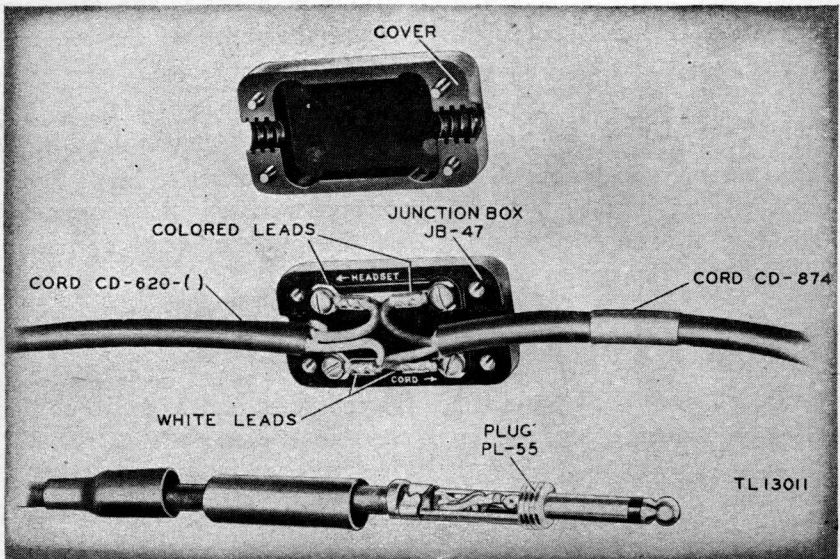

Figure 17. Junction Box JB-47 and Plug PL-55, connection detail.
b. **CORD CD-874.** Cord CD-874, which terminates in Plug PL-55, is supplied for use with Headset HS-30-( ). The impedance of Headset HS-30-( ) with Cord CD-874 is approximately 250 ohms. Junction Box JB-47 is connected between the headset and Cord CD-874. (See fig. 17.)
a. CORD-HEADSET CONNECTION. One end of Cord CD-874 terminates in Junction Box JB-47, which is made of two layers of bakelite held together by four screws. (See fig. 17.) Remove these screws with a small screw driver. Inside are four terminals connected in pairs by two metal strips. On the side of one strip is an arrow and the word CORD. Loosen the two end screws nearest this arrow. Connect the white wire from the headset and the white wire from Cord CD-874 to these screws. The remaining colored wires, one from the headset and the other from Cord CD-874, are attached to the screws nearest the arrow marked HEADSET. Lay the heavy insulated cords in the corrugated grooves of the junction box. Fit the two sections of the junction box together snugly. Insert the four screws and tighten firmly into place.